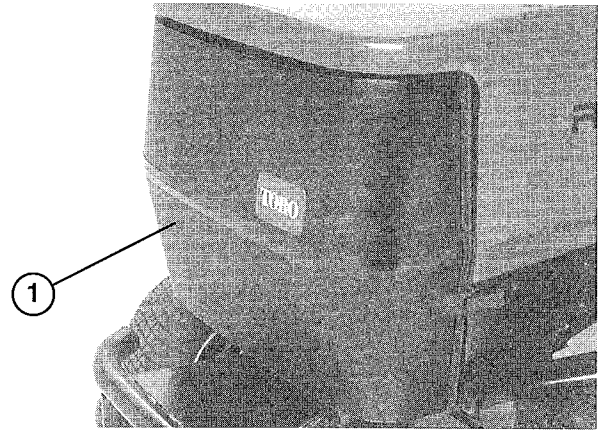

Figure 48
ENGINE COOLING SYSTEM (Fig. 48–49)
B. Unlatch and remove rear screen (Fig. 48). Clean screen thoroughly.